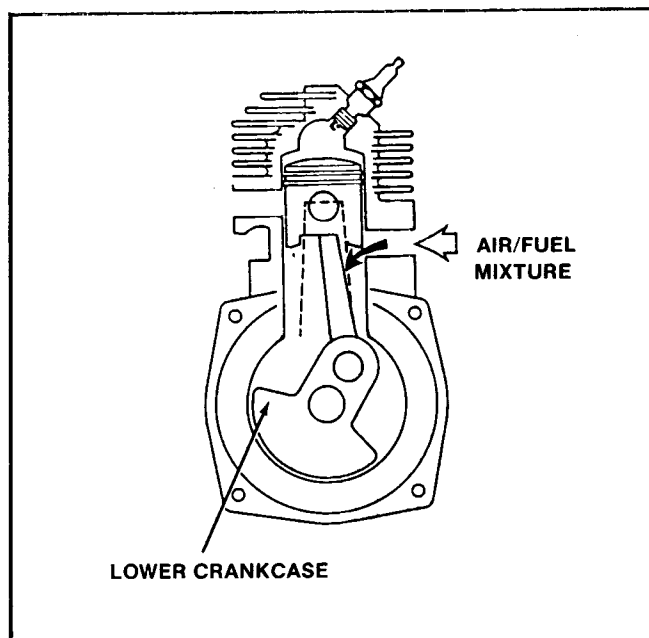

Figure 89
5. The lower skirt of the piston rises above the intake port and allows a fresh air/fuel mixture to be drawn into the lower crankcase. See Figure 89.